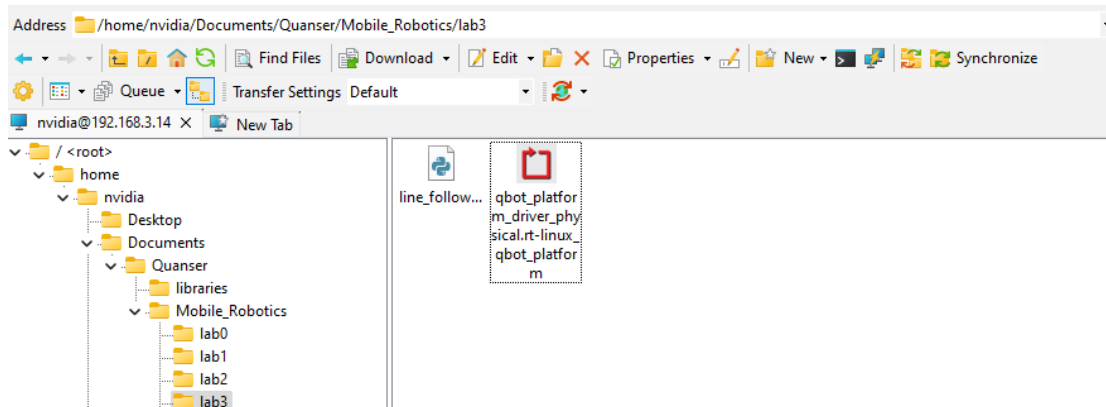

Figure 1. Correct directory for python script
- a. navigate to "~\Documents\Quanser\Mobile_Robotics" and create a new folder "Lab3", as shown in Figure 1. Then copy the updated line_following.py to "Lab3". In addition, copy the qbot_platform_driver_physical.rt-linux_qbot_platform over. (You can just drag the files over).